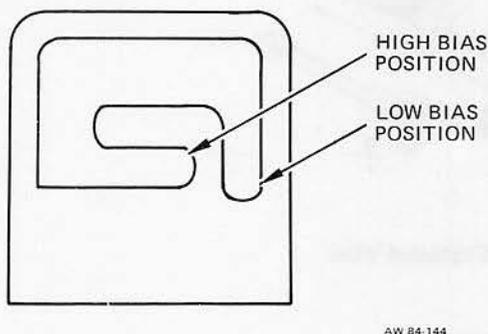

Figure 3: Adjustment Positions of the Bias Spring
Note: When installing the armature and clapper assembly, ensure that the bias spring of the assembly is correctly positioned in the adjustment slot of the bracket mounted on the support pole piece assembly. (See Figure 3.)
8.04 The ringer is shipped with the bias spring in the high bias position for ringing at 77 VAC, 20 Hz. For lower voltages and 30 Hz ringing, the bias spring can be moved to the low bias position. (See Figure 3.)